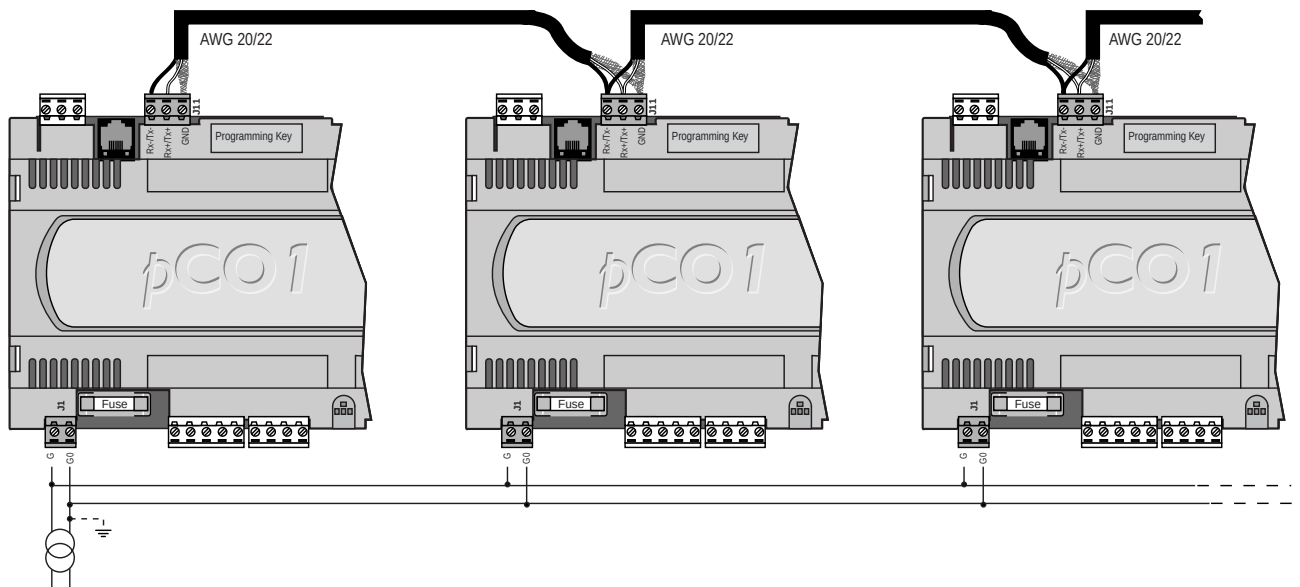

Fig. 5.4.1
La Fig. 5.4.1 rappresenta lo schema di più schede collegate in rete pLAN alimentate dallo stesso trasformatore, tipica applicazione all'interno di uno stesso quadro elettrico.
Fig. 5.4.1 shows a diagram of a number of boards connected in a pLAN network and powered by the same transformer, typical for a number of boards connected inside the same electrical panel.
- with these configurations (Figs. 5.4.1, 2, 3) Class II safety transformers must be installed.